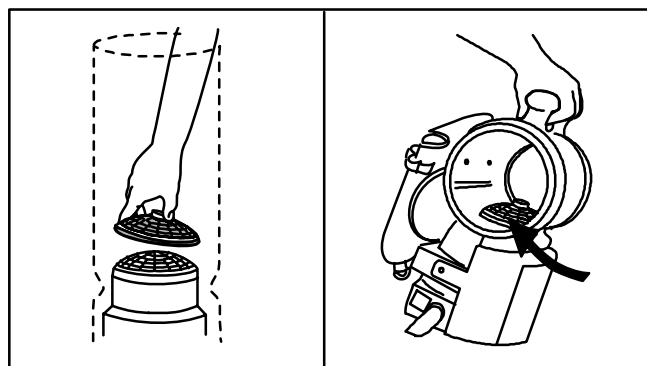

FIG. 22
4. Once a month (or more often if necessary) clean the dome filter, located inside the vacuum underneath the Micro and cloth filters (Figure 22).